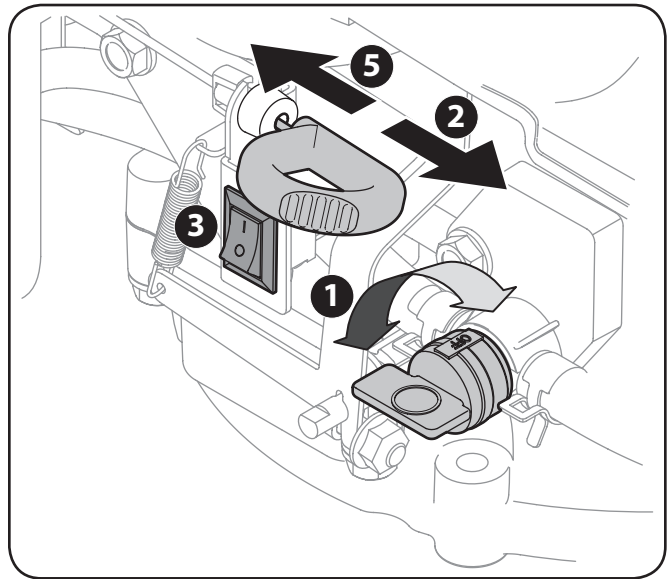

Figure 5-3
1. If equipped, turn on fuel valve located on the engine. See Figure 5-3.